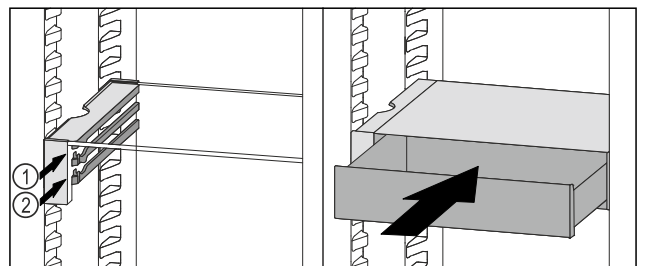

Fig. 85
- Place the VarioSafe drawer behind the stoppers on desired rib Fig. 85 (1) or Fig. 85 (2).